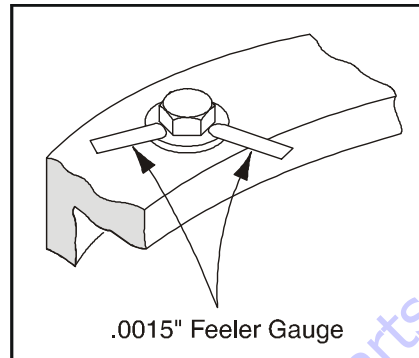

Figure 3-38. Swing Bolt Feeler Gauge Check
- b. At the positions indicated on Figure 3-38. try and insert the 0.0015 in. feeler gauge between the bolt head and hardened washer at the arrow indicated position.
- d. At the position indicated on Figure 3-38. try and insert the 0.0015 in. feeler gauge between the bolt head and hardened washer at the arrow indicated position.